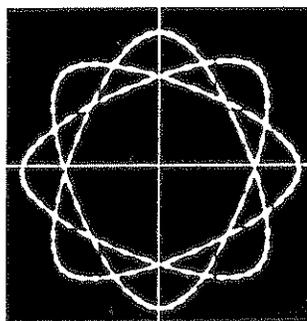

Figure 3-10
41. Set the oscilloscope to X/Y mode and adjust the VOLTS/DIV scale on both channels to display the waveform shown in figure 3-10.